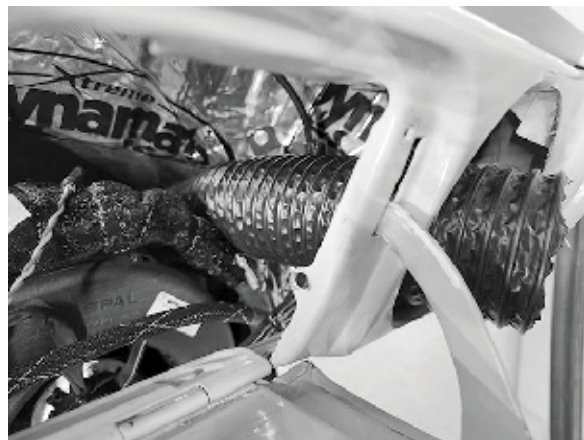

**Figure 1**
2. Refer to Figure 1, below, for duct hose routing.
3. Attach 2 ½" duct hose to each hose adapter and connect to the evaporator as shown in Figure 1, below.
1. Install duct hoses as shown in Figure 1, Page 34.
3. Insert new glove box assembly open side up, right side first (See Photo 1, below). Rotate the glove box assembly forward into position lining up the (4) mounting holes (See Photos 2 and 3, below).
4. Using (4) #8 x 1/2" pan head screws, secure the glove box to the dash (See Photo 4, below).